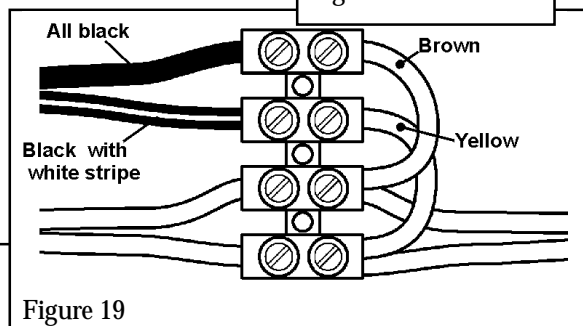

Figure 19
- Securely connect the leads to the terminal block. **Connect the black lead to the terminal opposite the brown lead. Connect the lead with the white stripe to the terminal opposite the yellow lead.** See figure 19.